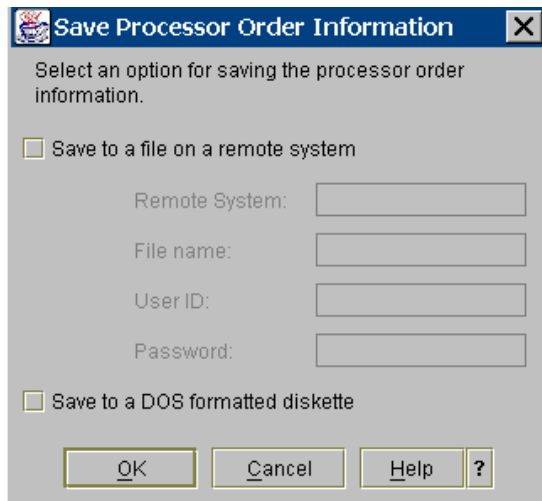

Figure 4-5 Save Processor Order Information
- c. Select **Display Order Information** and the Save Processor or Memory Order Information will appear (see Figure 4-5).